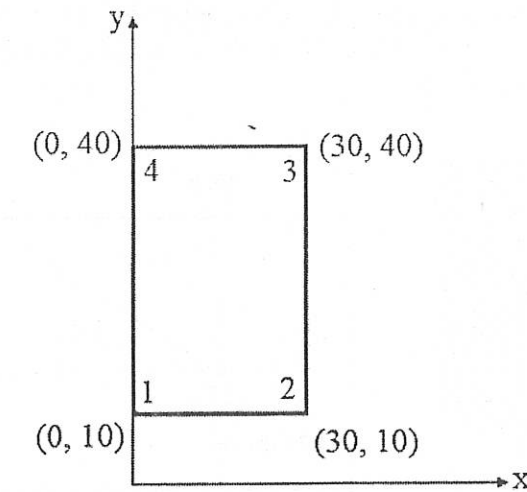

Figure. 7
15. (a) For the element shown in Figure 7, assemble Jacobian matrix and strain displacement matrix for the Gaussian point  $(0.57735, 0.57735)$ .